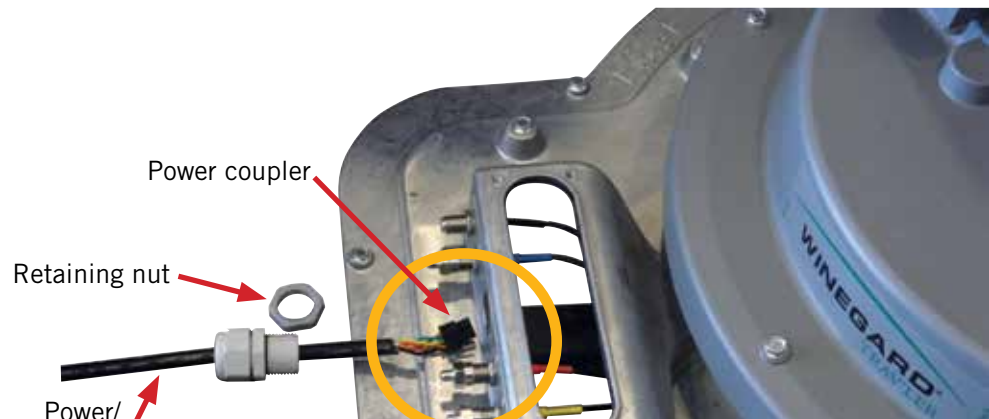

Figure 6
D) Unclip the power coupler from the internal power cable, and unthread and remove the power/control cable retaining nut located inside the turret (Figure 6).